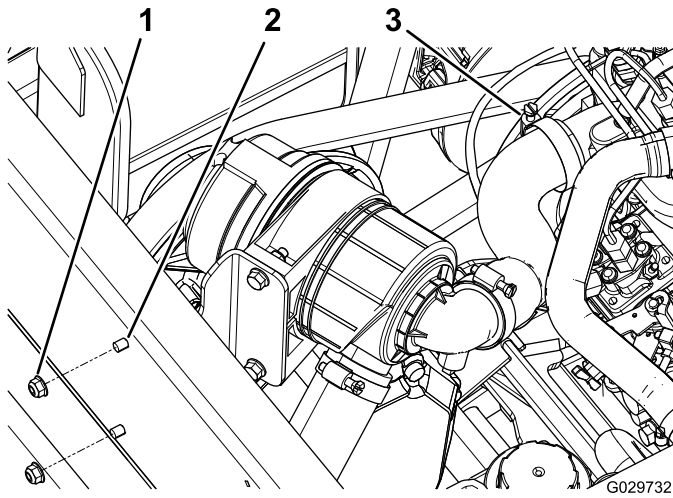

Figure 5
1. Install the air-filter assembly to the rear frame member of the machine with the 2 carriage bolts and 2 flange nuts (Figure 5).
2. Loosely install the loose end of the long hose to the engine with a hose clamp (Figure 5).